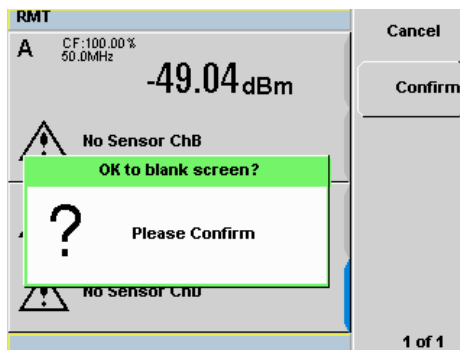

Figure 2-48 Password reconfirmation pop-up
- 8 When the correct password is successfully entered for the second time, you will be prompted for confirmation before the screen is blanked (see Figure 2-48). Press **Confirm**.